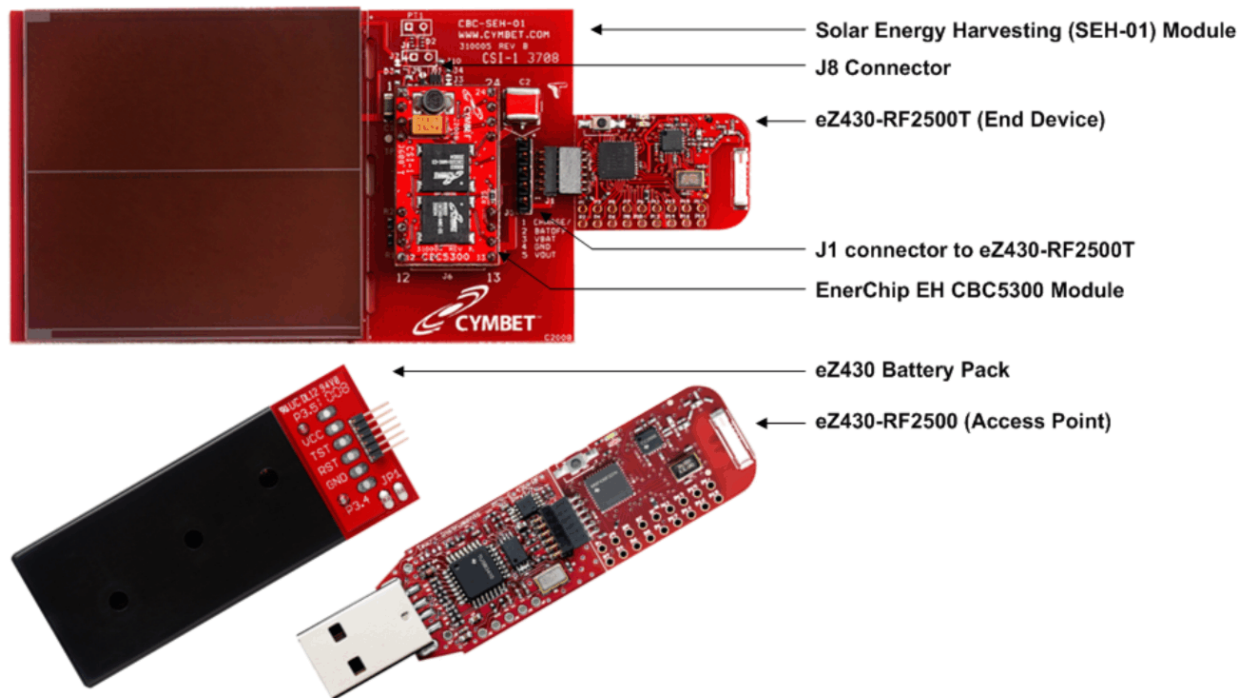

Figure 1-2. eZ430-RF2500-SEH Development Tool Features
1. Remove the 'Battery Enable Jumper', J8 (see Figure 1-2 for details).